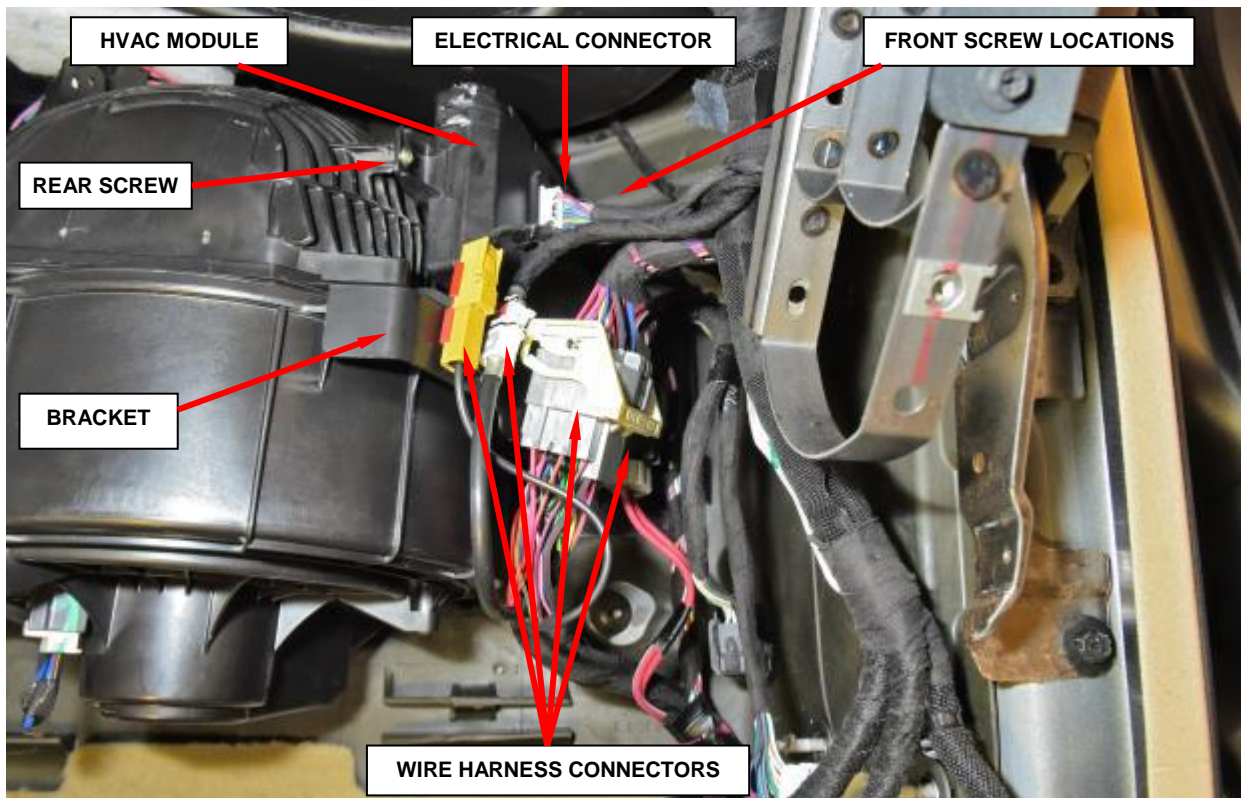

Figure 62 – HVAC Module
7. Disconnect the electrical connector from the HVAC module, located on the air inlet housing (Figure 62).
8. Release the wire harness connectors from the bracket (Figure 62).
9. Loosen the two screws that secure the front of the HVAC module to the air inlet housing (Figure 62).
10. Remove the one screw that secures the rear of the HVAC module to the air inlet housing (Figure 62).